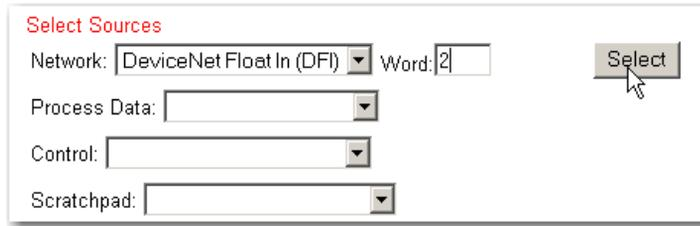

FIG. 348 NETWORK/SELECTING DEVICENET BOOLEAN IN
- Step 3. Click on the Networks pull down menu. (See Fig. 348)
- Step 4. Click on “DeviceNet Float In” to select it as the Source for the Assignment Statement. (See Fig. 348)